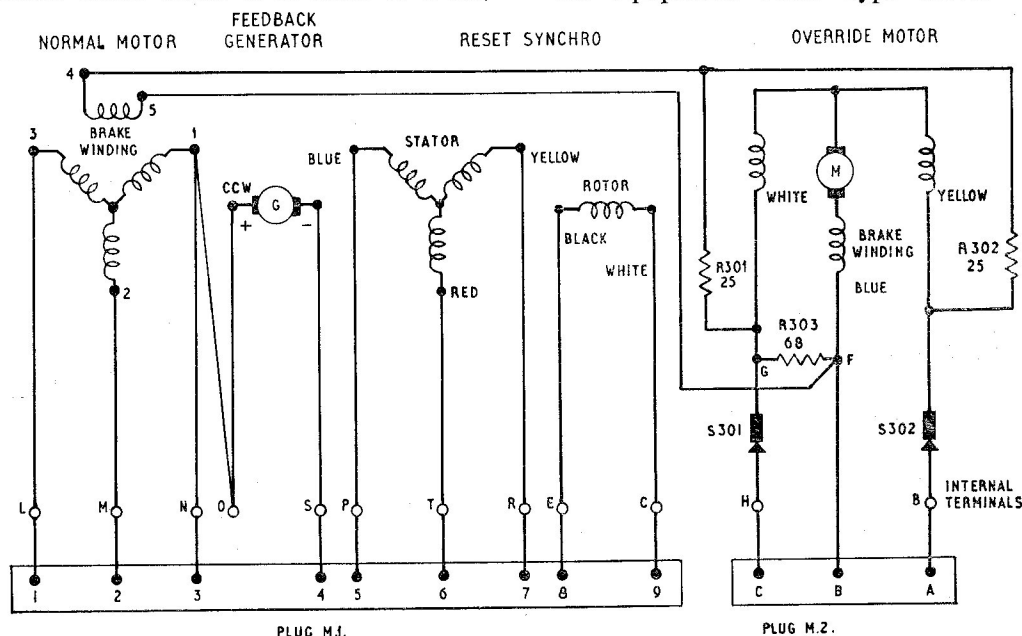

Fig. 4. Circuit diagram
10. Fig. 4 illustrates the circuit of the throttle motor. External connections to the unit are made via two plugs, one 4-pole, the other 9-pole. A 16-way terminal block forms the distribution point, inside the unit, for the external connections. Plug M.1 (9-pole) is connected to plug A.3 on the amplifier, Type A401/3; plug M.2 (4-pole) is connected to the override switch and to the 28V d.c. negative pole (earth).